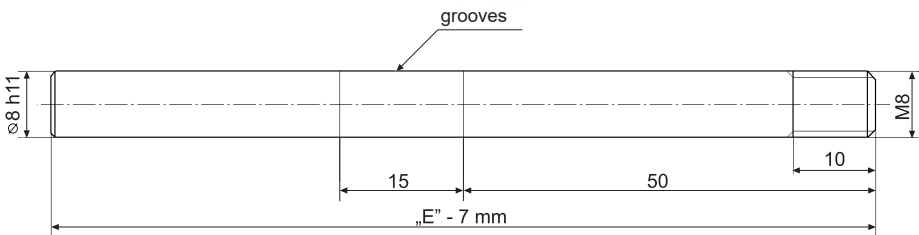

Fig. 25: Detail of a drawing of a rod electrode
1. Create your own electrode (rod - variant 10, rope - variants 30, 33, 34, 35, 36, 37) as shown on Fig. 25 or 26. The length of the rod electrode must be about 7 mm shorter than the dimension "E" in figure 25. The length of the rope electrode must be about 55 mm shorter than the dimension "E" in figure 26. The rope electrode and the connection of the threaded end to the rope must have sufficient tensile strength (recommended at least 10 kN). The material of the electrode is recommended to be used stainless steel type 1.4404 (AISI 316 L) or similar depending on the application.
2. Shorten the rod electrode by means of a suitable metal saw and file the end of the electrode. The length of this electrode must be 7 mm shorter than dimension "E" in fig. 25.